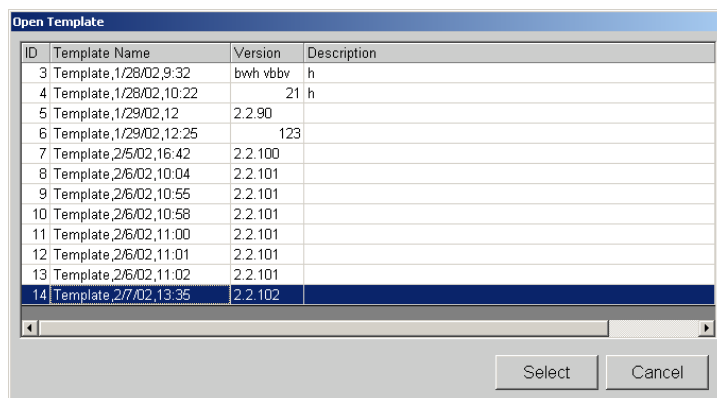

Figure 5-63 Open Template Dialog Box
1. On the **Home** tab, click **New Lot**. The **Open Template** dialog box opens. See Figure 5-63.